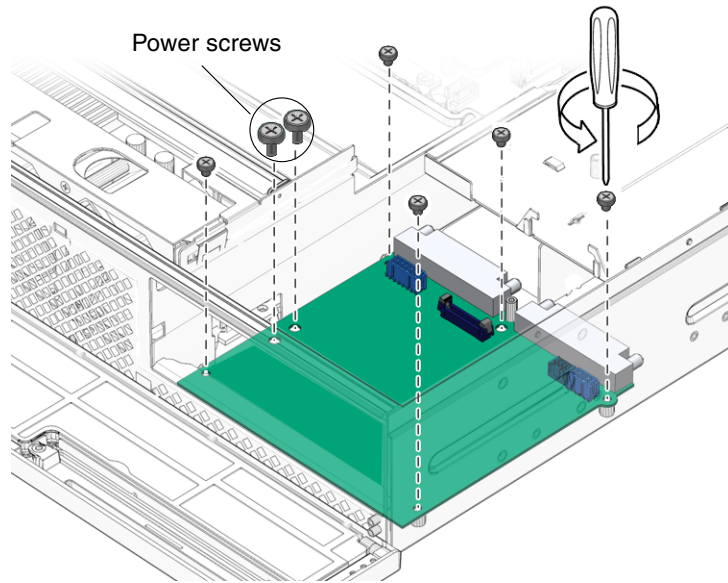

FIGURE 5-28 Removing the Power Board Screws
3. Remove the five screws and two power screws that secure the power board to the chassis (FIGURE 5-28).